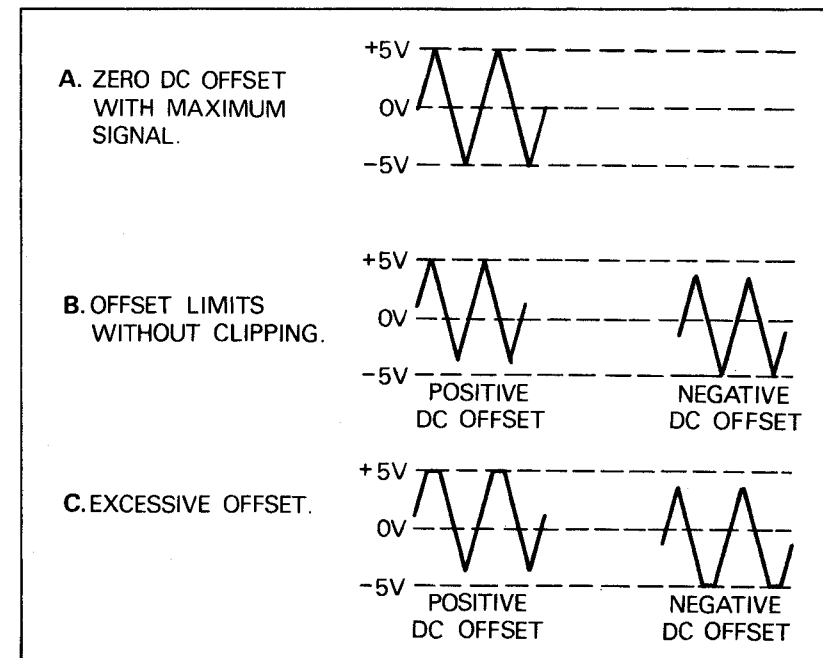

Fig. 4. Use of DC OFFSET control.
6. Remember that the output signal swing of the generator is limited to ± 10 volts (open circuit) or ± 5 volts into 600 ohms. This applies to the combined signal and DC offset. Clipping occurs slightly above these levels. Fig. 4 illustrates the various operating conditions encountered, when using the DC offset. If the desired output signal is large or if a large DC offset is used, an oscilloscope should be used to make sure that the desired combination is obtained without undesirable clipping.